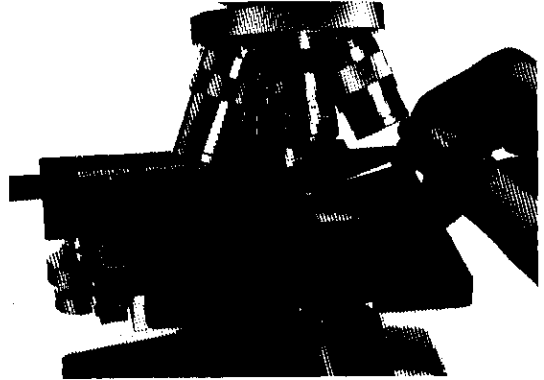

Fig. 8
1. In order to eliminate diffraction and make use of the excellent resolving capability of the 100X objective, it is necessary to exclude air from the space between the cover glass over the specimen and the front lens of the 100X objective. This is accomplished by placing a drop of immersion oil onto the cover glass. The controls are then manipulated to immerse the front lens of the objective into the oil. This forms an air tight connection through which the specimen may be viewed without interference from the atmosphere. Care must be taken not to let the lens of the objective and the cover glass come into direct contact since the viewing surface of the lens itself could be scratched or otherwise marred. (Fig. 8)